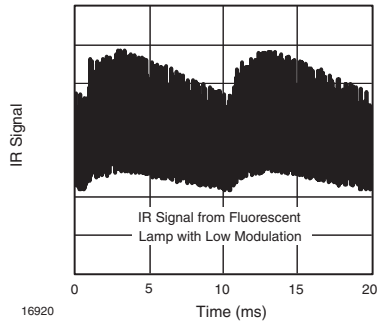

Fig. 15 - IR Signal from Fluorescent Lamp with Low Modulation
- Strongly or weakly modulated noise from fluorescent lamps with electronic ballasts (see figure 15 or figure 16)
Suppression of interference from fluorescent lamps	Even critical disturbance signals are suppressed (e.g. waveform of figure 15)